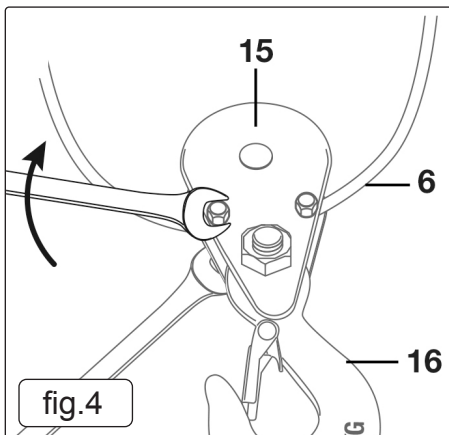
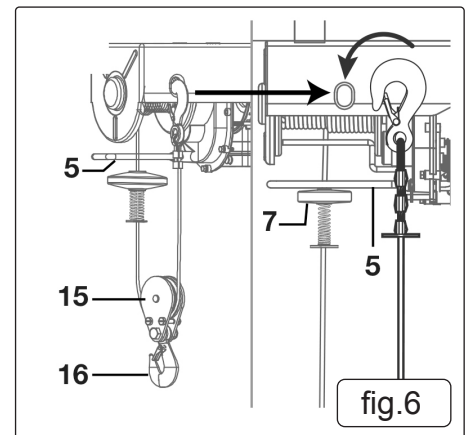
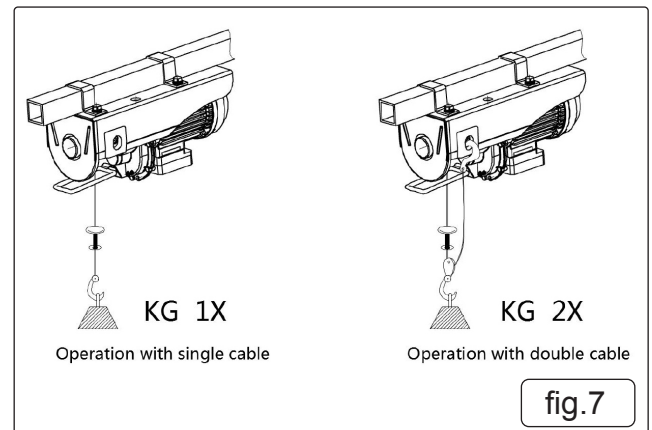

fig.4
fig.6
fig.7
Fit the return roller (15) and additional hook (16) as shown in Figure 4 – 5. The permanent hook (8) must be attached to the fastening hole (2) (Fig. 6). The load is now raised by two steel cables, which means that the cable hoist can lift twice its rated load. (Fig.7).
7.1.2. **Automatic stop mechanism lever (5) fig.6:** When the maximum lifting height has been reached, the cut-out weight presses the lever (5) fig.6 upwards. This trips a limit switch after which the load cannot be raised any further.